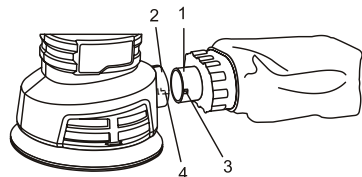
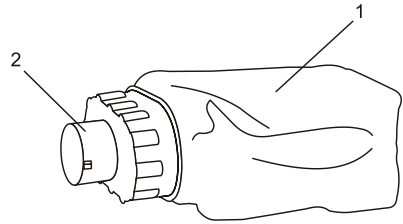

Fig. 4
Fig.5
1. Slide the dust bag connector (1) into the dust port (2) in the rear of the sander (Fig. 4).
Remove the dust bag assembly (1) from the dust port by rotating it COUNTERCLOCKWISE approximately 15° and pulling it out of the dust port (Fig. 5). Carefully shake the dust bag assembly with the end cap opening (2) pointing downward to remove the sanding dust. Reinstall the dust bag assembly as noted in Fig 4.
Clean the dust bag often. It will be more efficient when it is not clogged with sanding dust. To clean the dust bag, see Fig. 5 on Page 12.